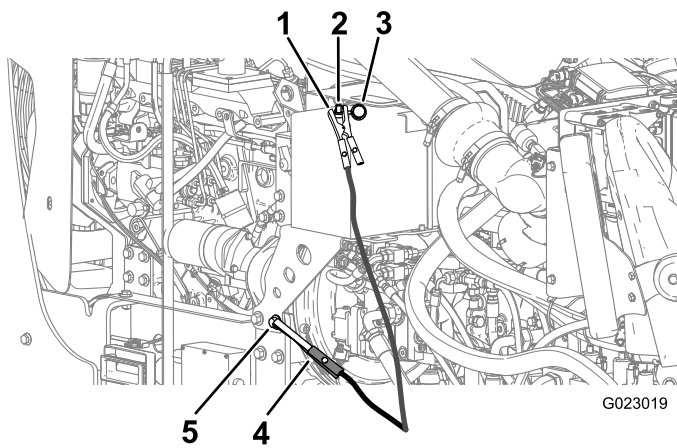

Figure 94
6. Remove the cover from the jump post (Figure 94).
7. Connect the positive (+) jumper cable to the jump post (Figure 94).
8. Connect the negative (-) jumper cable to a ground point, such as an unpainted bolt or chassis member (Figure 94).
10. When the engine starts, have the other person disconnect the negative (-) jumper cable from the frame and then disconnect the positive (+) jumper cable (Figure 94).